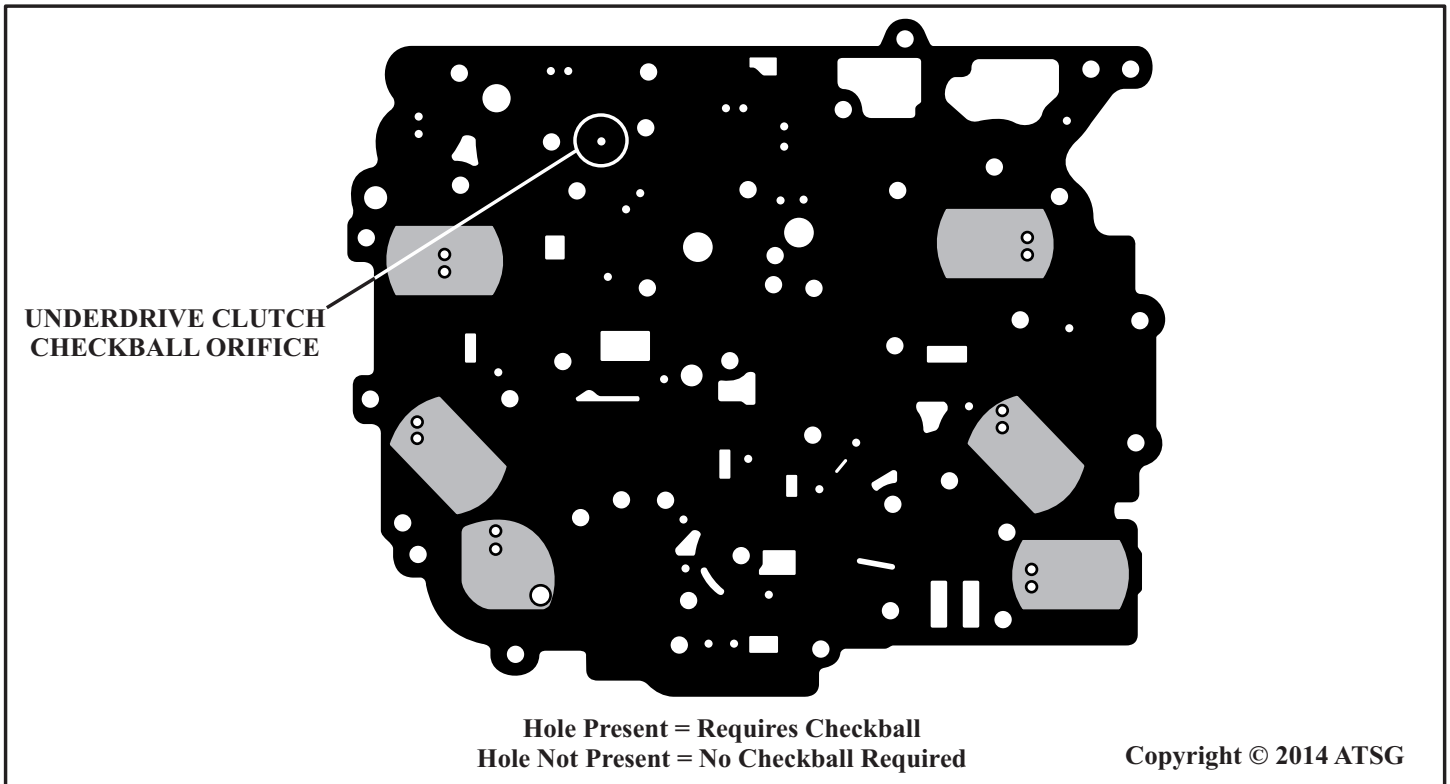
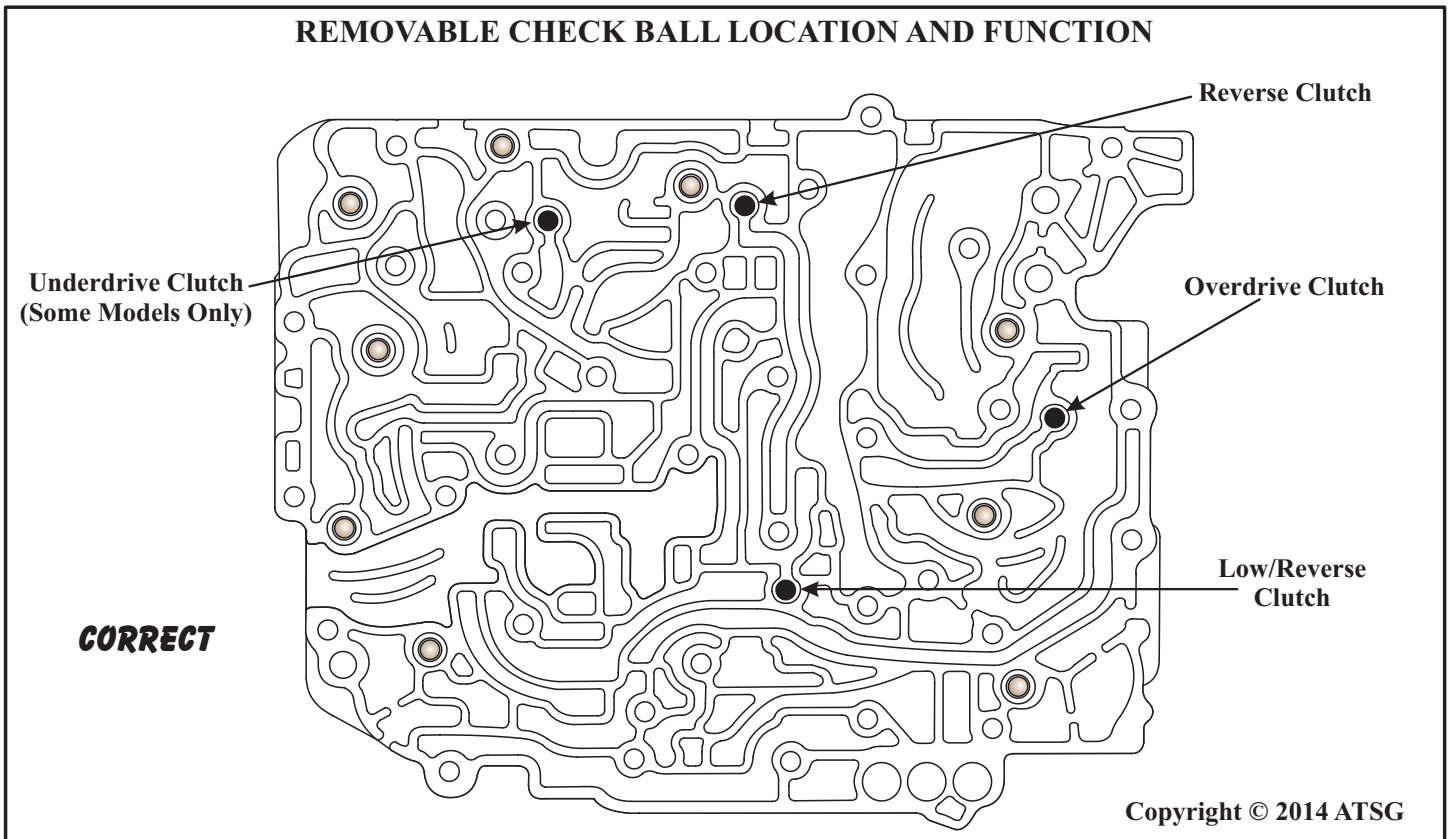

Figure 1
Figure 2
- (2) Certain models require a checkball in the Underdrive Clutch location (approximately 2010 and Later) and certain models do not. Models that have a hole in the separator plate over the Underdrive Clutch checkball pocket will require a checkball. Models with no hole in that location will not require a checkball, Figure 1. Refer to Figure 2 for correct checkball locations. The separator plate without the hole can be used in earlier models and the checkball can be omitted. The separator plate with the hole CANNOT be used in the later models without the checkball, this will result in a harsh application of the Underdrive Clutch.